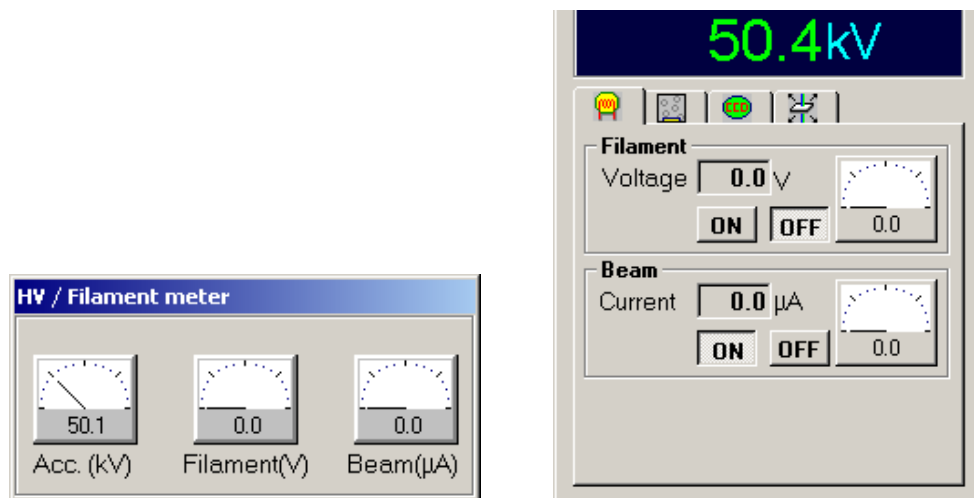

Fig. 2-15 During Rise of Accelerating Voltage
- (d) The HV/Filament meter window as shown in Fig. 2-15 automatically opens. Accelerating voltage rises continuously until the determined level is attained.